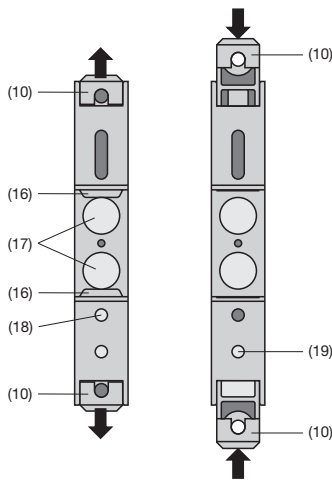

Fig. 7. Rear of device.
The while pressing the latch (18) in the base of the device (Fig. 7, left), pull out the transmitter securing brackets (10). Now secure the transmitter to the wall or panel using two 4 mm diameter screws.
(10) Screw hole brackets
(16) Top-hat rail clip
(17) Rubber buffers
(18) Latch for pulling the screw hole brackets out
(19) Latch for pushing the screw hole brackets in
To return the brackets to their original positions, the latch (19) in the base of the device has to be depressed before applying pressure to the securing brackets (10) (see Fig. 7, right).